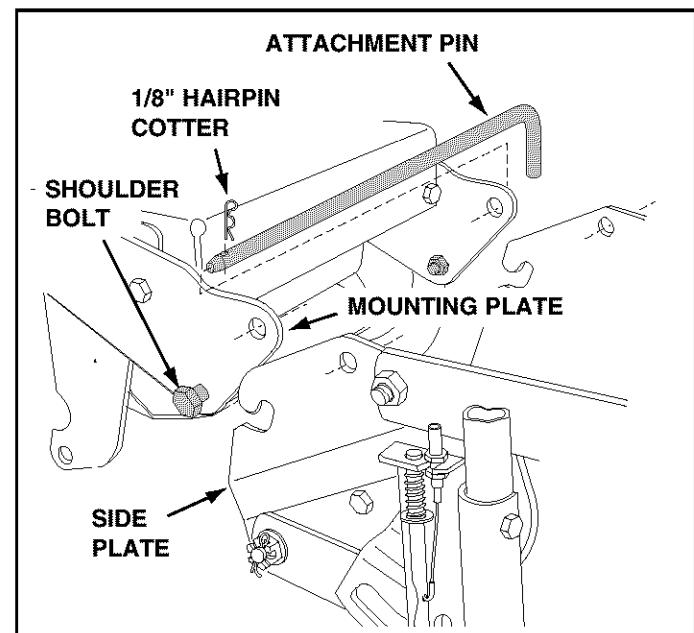
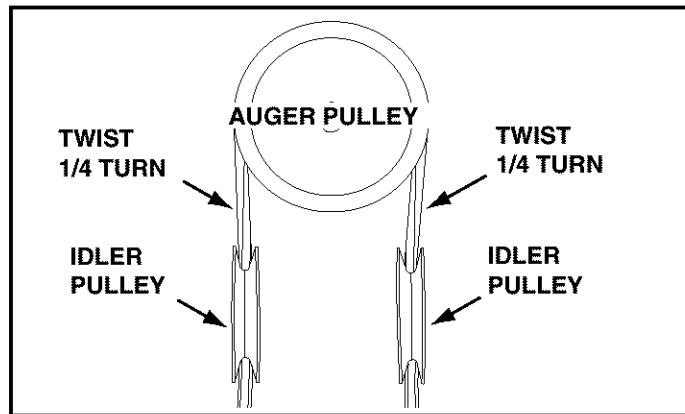

FIGURE 21 **RIGHT SIDE VIEW**
FIGURE 22
- To ease the assembly of the auger drive belt, delay the installation of the attachment pin shown in figure 21 until you have assembled the belt as instructed for figures 22 and 23.
- The auger belt comes preassembled to the pulleys on the snow thrower housing. Make sure the belt passes over the top of the auger pulley and then twists 1/4 turn to pass underneath each side idler pulley. The "V" side of the belt must mate with the grooves of the pulleys. See figure 22.
- Lift the front of the snow blower to align the holes in the mounting plates and the side plates. From the left side of the tractor install the attachment pin through the holes, securing it with the 1/8" hairpin cotter. Refer back to figure 21 on page 11.